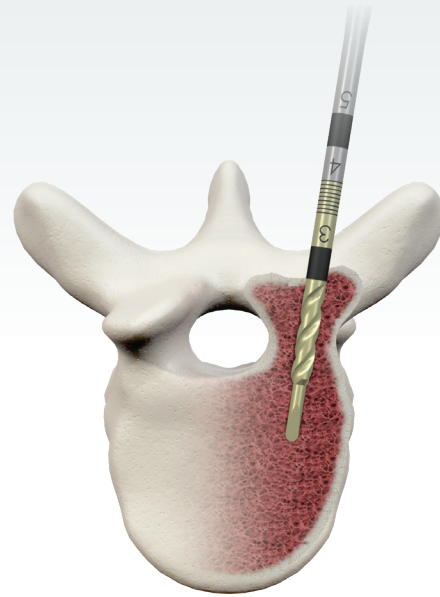

Figure 5
- Secure either the Vital Power 3.0 mm Reamer Probe, or the optional Vital Power 3.2 mm Reamer Probe, to the Universal Power Small AO Attachment. Use the reamer to further dilate the channel that the pilot drill previously created through the pedicle canal. This reamer should self-center in the pilot hole created by the drill (**Figure 5**).